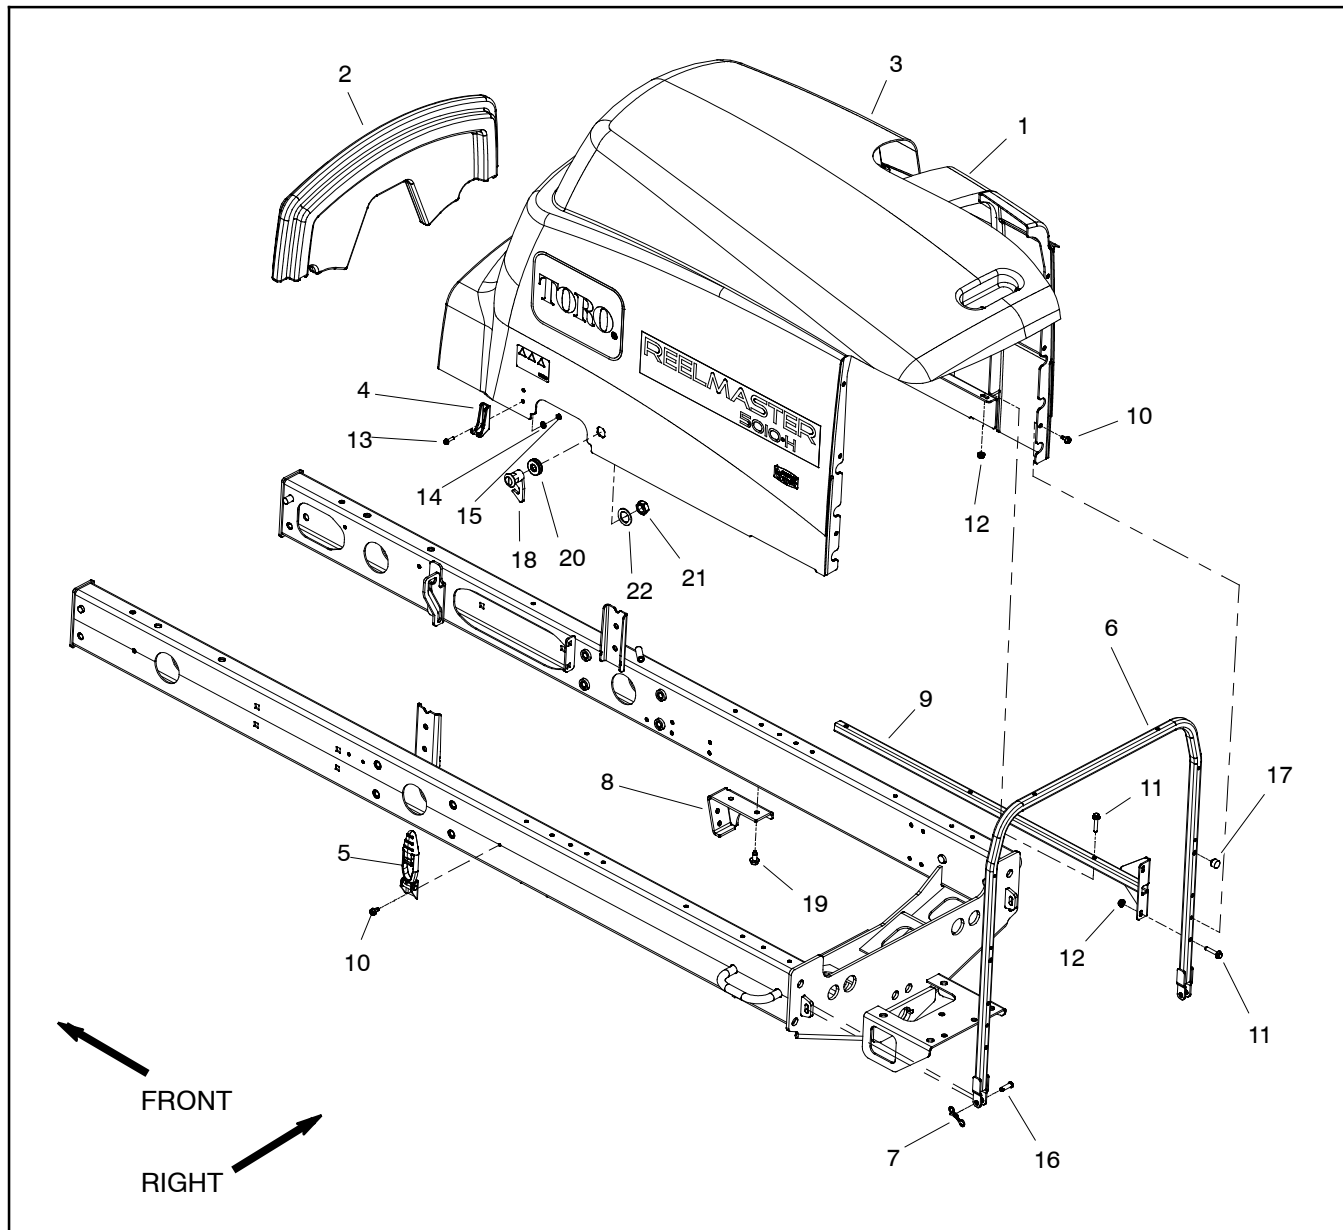

Figure 29
Removal (Fig. 29)
3. Remove bow tie pin (item 7) and yoke pin (item 16) to allow hood removal.
5. Remove hood components as necessary using Figure 29 as a guide.
Installation (Fig. 29)
1. Install all removed hood components using Figure 29 as a guide.
3. Install yoke pin (item 16) and secure with bow tie pin (item 7).